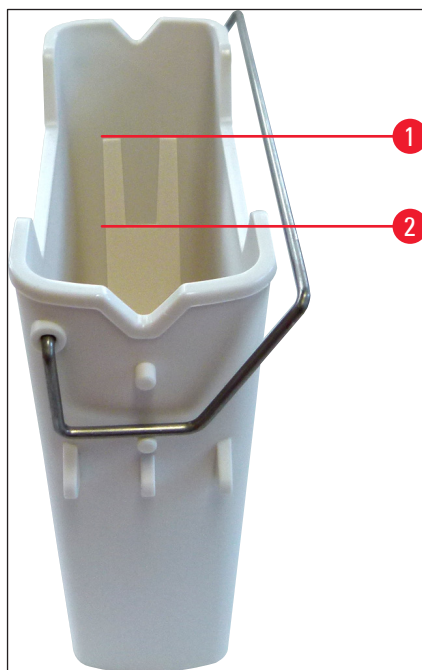

Fig. 68
4. Check that the fill level is sufficient (→ Fig. 68) and the reagent is free of dirt. In the event of contamination, the solvent is to be replaced (→ P. 38 – 4.6.3 Prepare the reagent vessel, fill it and insert it into the load drawer) and the reagent vessel is to be cleaned before filling it again.